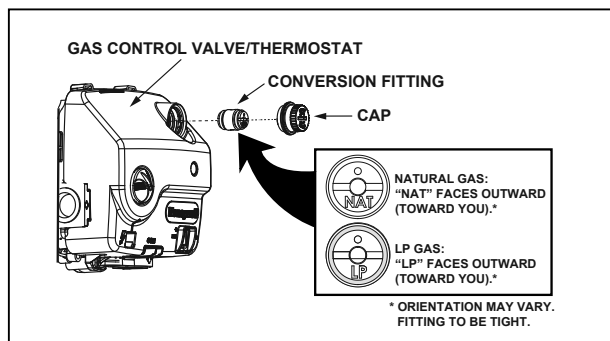

Figure 26: Conversion Fitting
2. Check the setting of the conversion fitting in the gas control valve (Figure 26).
4. Make sure both the conversion fitting (Figure 26) and the manifold burner assembly (see door label) are for the type of gas supplied to your home.
1. Remove the cap (shown in Figure 26).
- A. **LP GAS:** If you are converting the unit to use LP gas (propane), verify that "LP" is marked on the exposed end of the fitting. "LP" must face outward (toward you). See Figure 26. If "NAT" faces outward, repeat step 2.
natural gas, verify that "NAT" is marked on the exposed end of the fitting. "NAT" must face outward (toward you). See Figure 26. If "LP" faces outward, repeat step 2.